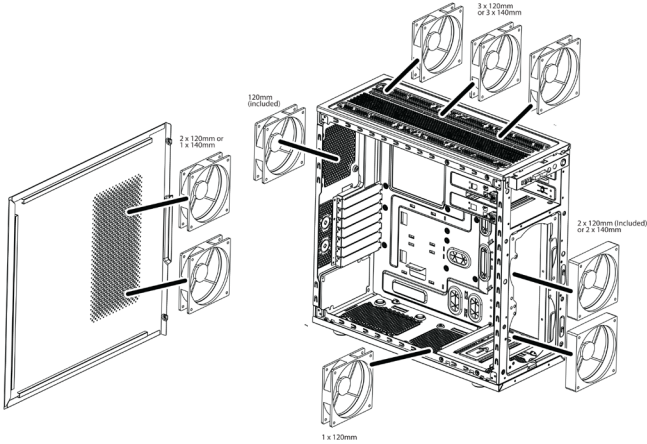

Figure 3-13. All Possible Fan Placements
- To add a fan to the chassis bottom, the lower 3.5" HDD cage must be removed. See figure 3-13.